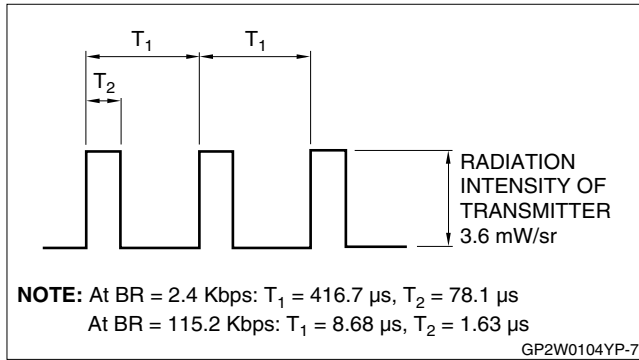

Figure 7. Input Signal Waveform (Detector Side)
3. See Figures 7, 8, and 9.
4.  $I_{OL} = 400\ \mu\text{A}$ . See Figures 7, 8, and 9.
5. BR = 115.2 kbps,  $\phi \leq 15^\circ$ . See Figures 7, 8, and 9.